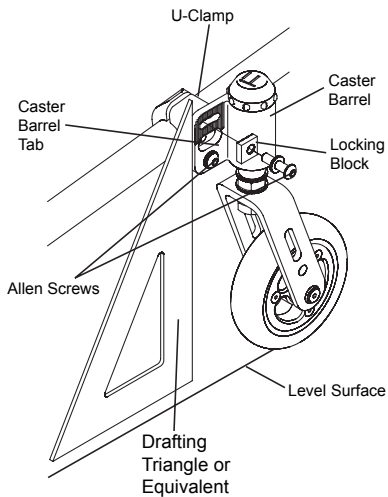

Figure 110
2. Loosen, but do not remove, the two Allen Screws that hold the caster barrel tab in place against the U-Clamp. **Note:** It is necessary to loosen the top screw more than the lower screw in order to permit the locking block to disengage from the caster barrel tab. See Figure 110.
3. Using a drafting triangle or similar 90° angle tool as shown in Figure 110, rotate the caster barrel until the straight edge of the caster barrel tab is perpendicular to the level surface.